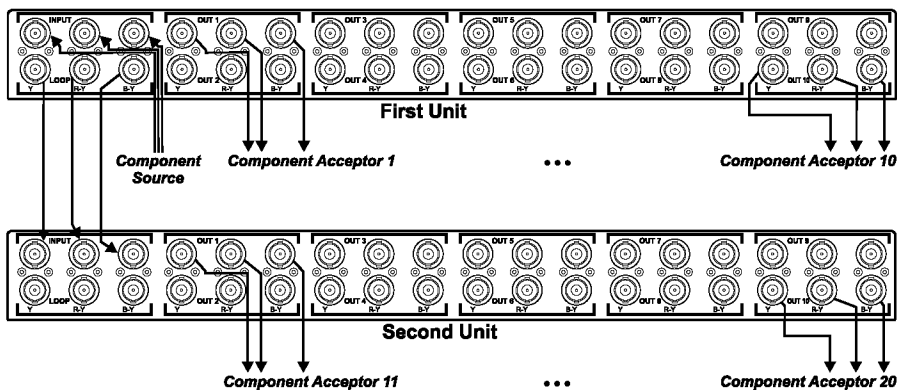

Figure 4: Connecting Several VM-100CB Units
| Figure 4: | Connecting Several VM-100CB Units         | 7 |
You can connect several **VM-100CB** units to form an expanded video component distributor. For example, as Figure 4 illustrates, connect two **VM-100CB** units to form a *1:20 Video Component Distributor*.
5. Connect both power cords3 (not illustrated in Figure 4).